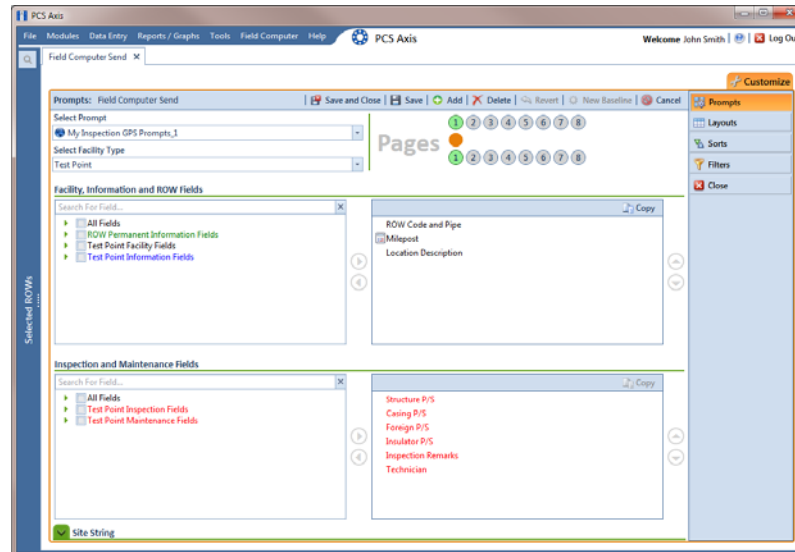

Figure 8-33. Prompts
- 9 Verify the name of the new theme displays in the **Select Prompt** field. If not, click the down arrow and select the theme in the selection list (Figure 8-33, page 382).
11 To add information prompts, follow these steps (Figure 8-33):
- a Click the  **Site String** and then double-click  **All Fields** in the left pane to view a list of fields available for selection (Figure 8-33, page 382).